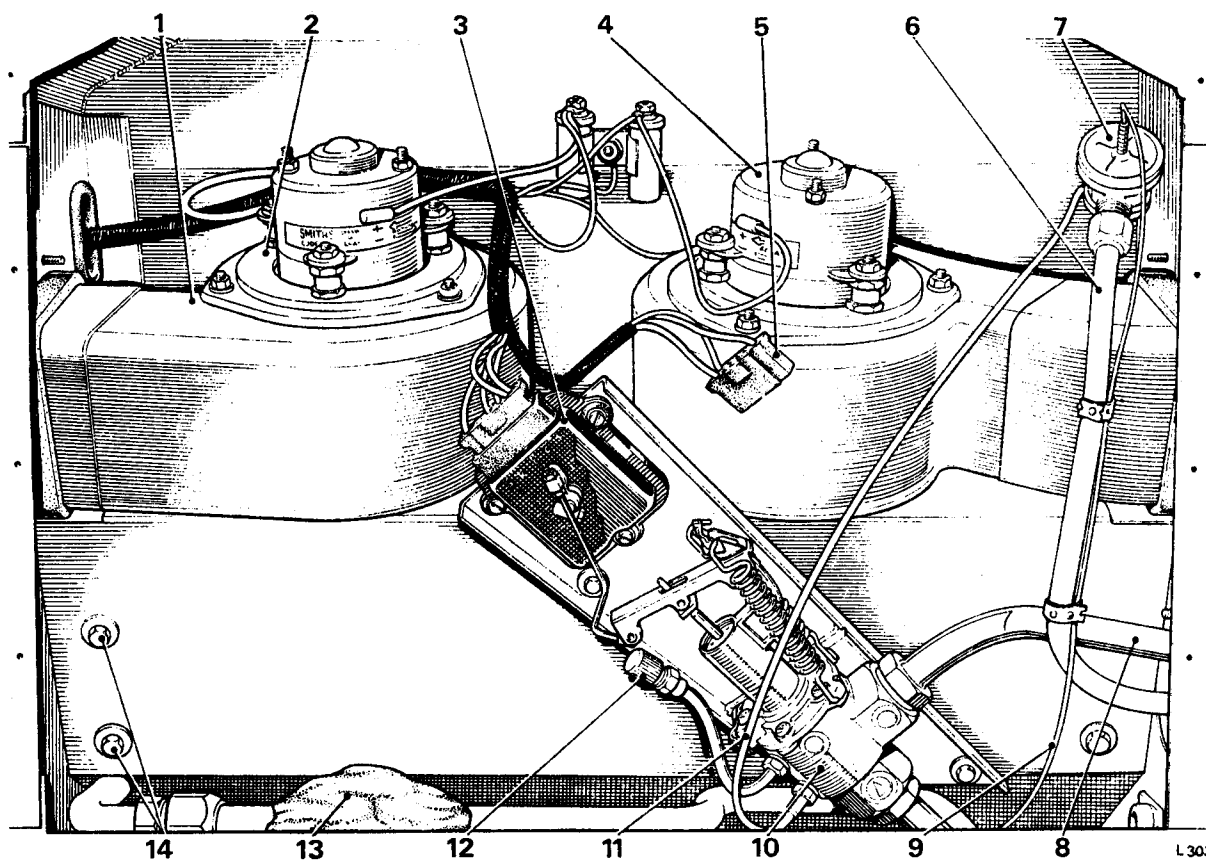

FIG. C38 EVAPORATOR BOX COMPONENTS
Evaporator matrix—To remove (*see Fig. C38*)
Suction throttling valve—To remove (see Fig. C38)
1. Remove the 'Schrader' valve cap from the charging pipe on the suction throttling valve (see *Fig. C38, item 2*).
Expansion valve—To remove (see Fig. C38)
6. Remove the putty insulation surrounding the thermal bulb on the suction throttling valve inlet pipe (see Fig. C38); slacken the clip securing the thermal bulb to the inlet pipe, then slide the bulb clear of the pipe.
9. Position the electrical connections to the fresh air flap actuator (see Fig. C38, item 5) such that they cannot cause an electrical 'short' when the battery leads are connected and the refrigeration switch operated.